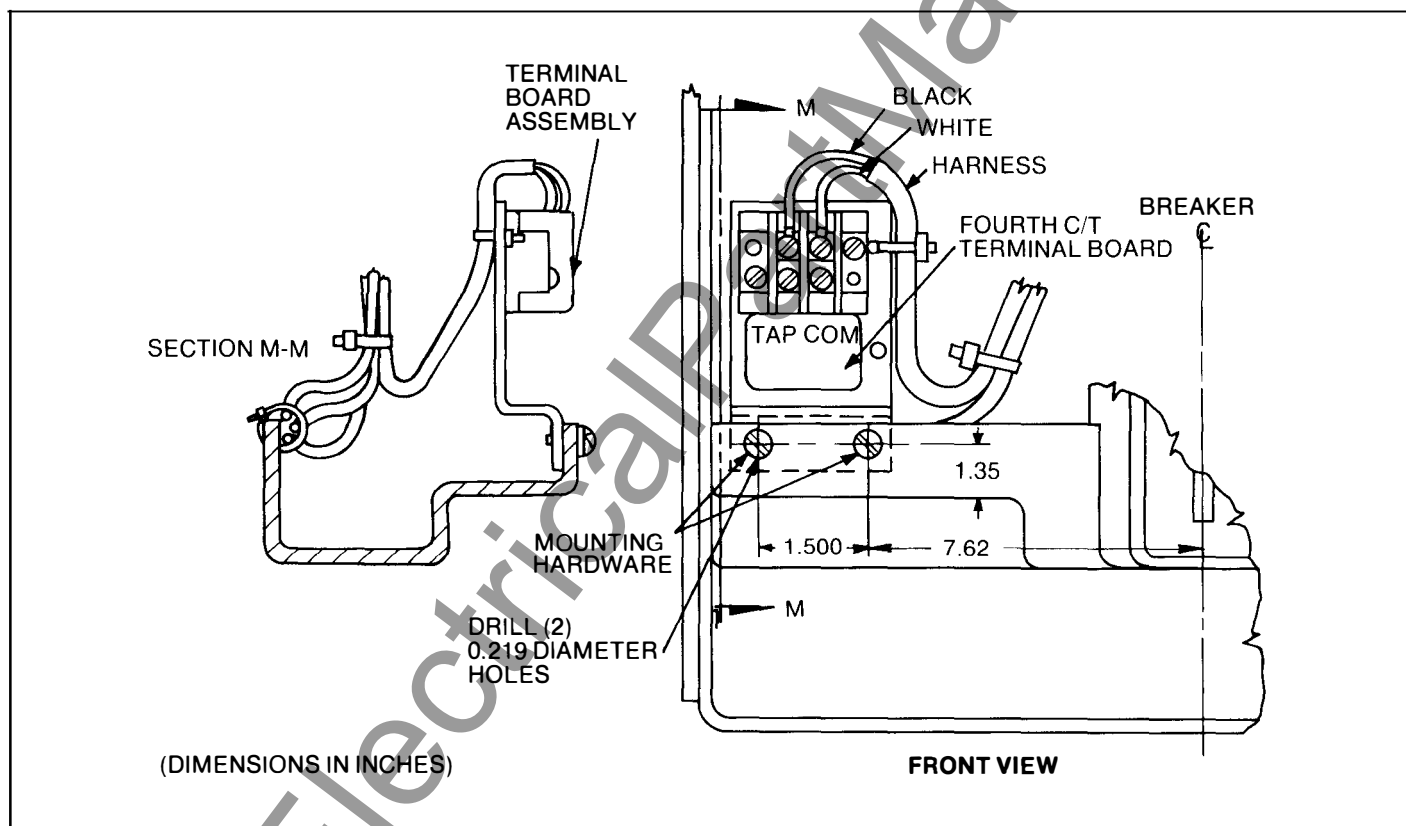

Fig. 4-2. 4th-wire terminal board installed — AK/AKS-50 stationary
The 4th-wire disconnect for stationary breakers is a terminal board which is mounted to the lower front channel as shown in Fig. 4-2.
2. If the terminal board assembly is being added, mount as shown in Fig. 4-2. The mounting holes may have to be added to the front channel. See Fig. 4-2.